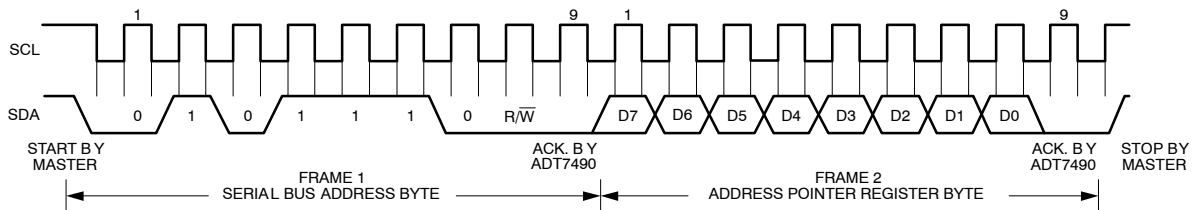
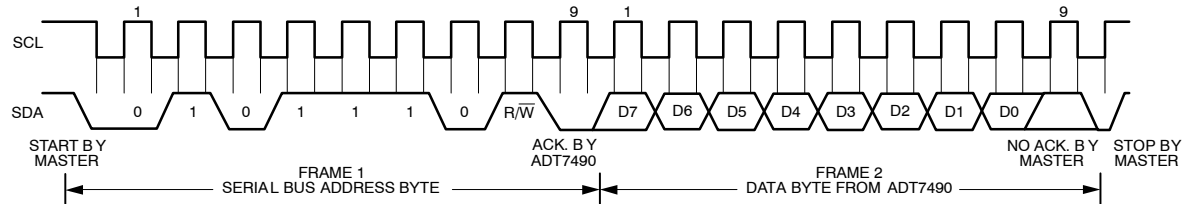

Figure 5. Writing to the Address Pointer Register Only
Figure 6. Reading Data from a Previously Selected Register
- If the NCT7491 address pointer register value is unknown or not the desired value, it must first be set to the correct value before data can be read from the desired data register. This is done by performing a write to the NCT7491 as before, but only the data byte containing the register address is sent because no data is written to the register. This is shown in Figure 5. A read operation is then performed consisting of the serial bus address, $R/\overline{W}$ bit set to 1, followed by the data byte read from the data register. This is shown in Figure 6.
- If the address pointer register is known to be already at the desired address, data can be read from the corresponding data register without first writing to the address pointer register, as shown in Figure 6.